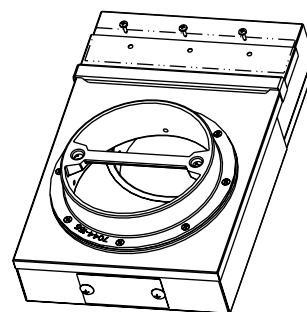

Figure 39.5
4. Cut the gasket to the proper length and slide in between the upper and lower chambers centered on the screw holes. Attach the upper and lower chambers with screws provided. **Figure 39.5**.